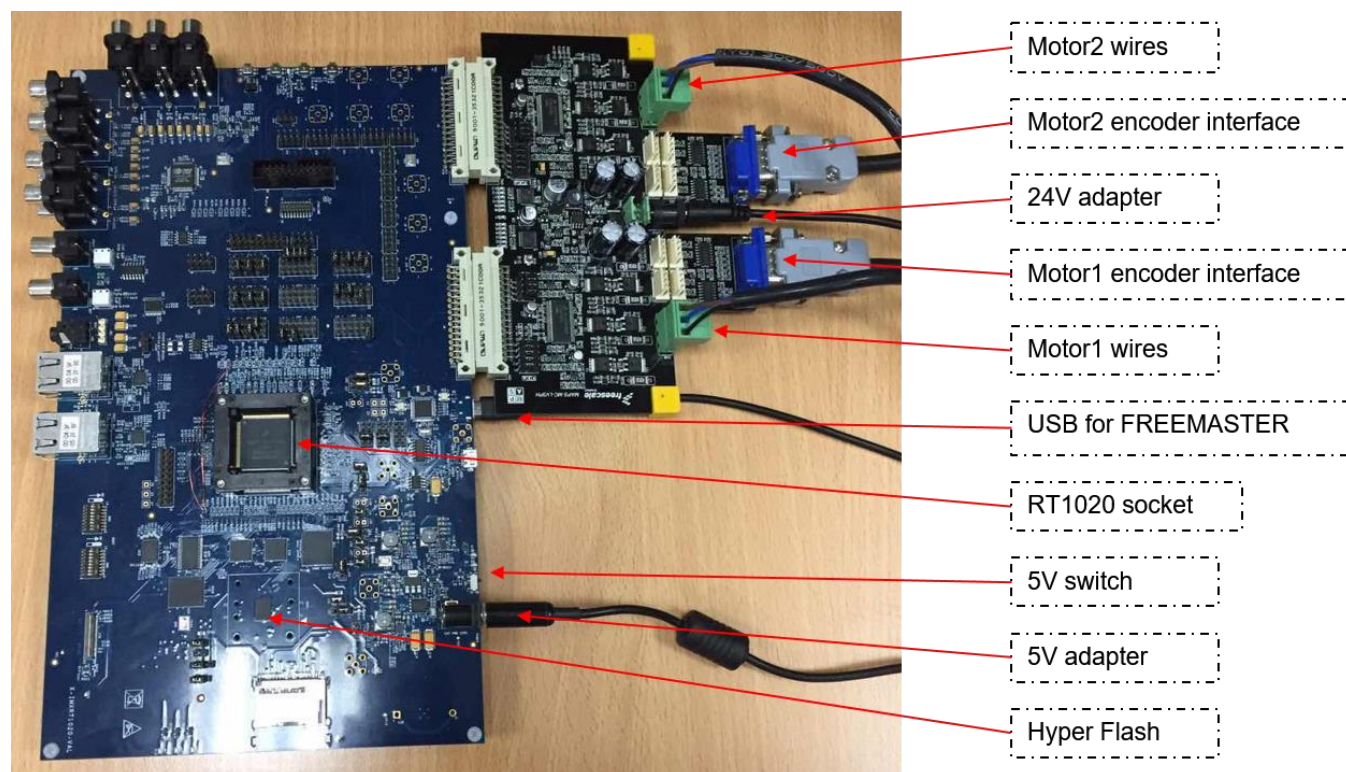

Figure 9. Setup dual servo demo
1. According to Figure 9, plug RT1020 EVB & motor board together and connect all interface.